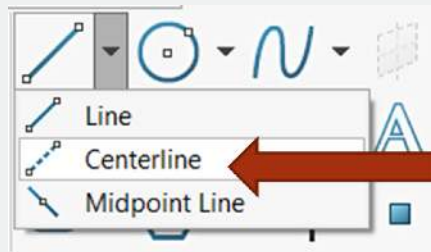

Figure 2.24 Construction Line from Line Drop Down
- Select “center line” from the line drop down when in a sketch (Figure 2.24).